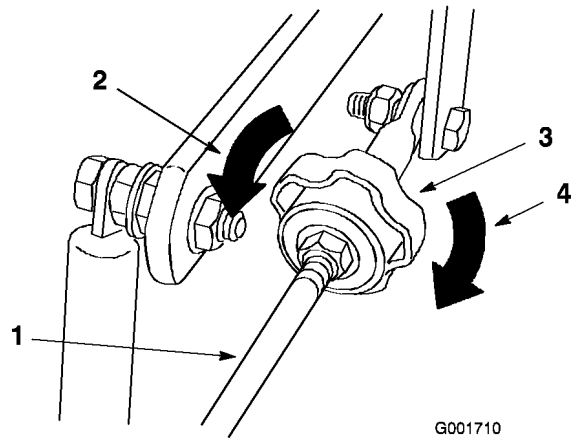

Figure 69
2. Adjust the pump rod length by rotating the knob, in the appropriate direction, until the wheel is still or slightly creeping in reverse (Figure 69).